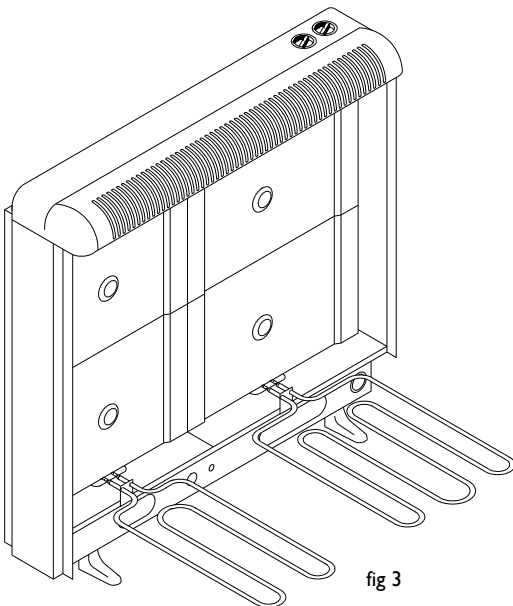

fig 3
9.- Place the storage bricks carefully, with the flat side facing the back of the heater. Arrange two rows of bricks (fig 3). Should big bricks (ref 2072) are required they must be placed at the right side.